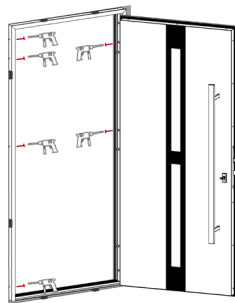

Fig. 20.
3.14. Tighten the anchors, but not completely (Fig. 20).